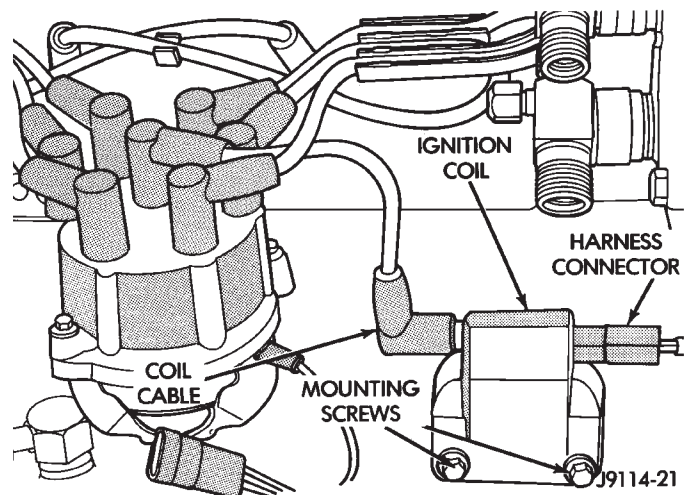

Fig. 17 Coil Harness Connector—4.0L Engine—Typical
(1) Unplug the ignition coil harness connector at the coil (Figs. 17 or 18).